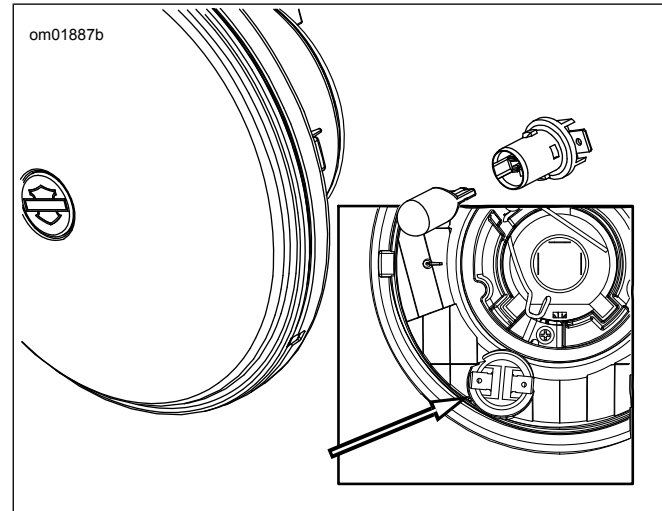

Figure 74. Position Lamp
3. See Figure 74. Remove the spade connectors from the bulb.